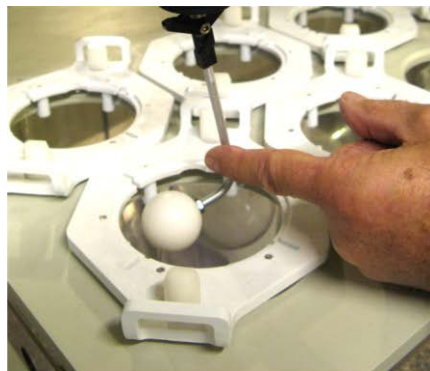

Figure 18
- 4.9.1.4 While gently pressing back on the gage shaft to avoid hitting the vessel rim or centering ring as shown in Figure 18. Lower the dissolution drive head so that the indicator ball is positioned about 2mm above the top of the vessels spherical radius. (This approximates the normal paddle or basket position.)